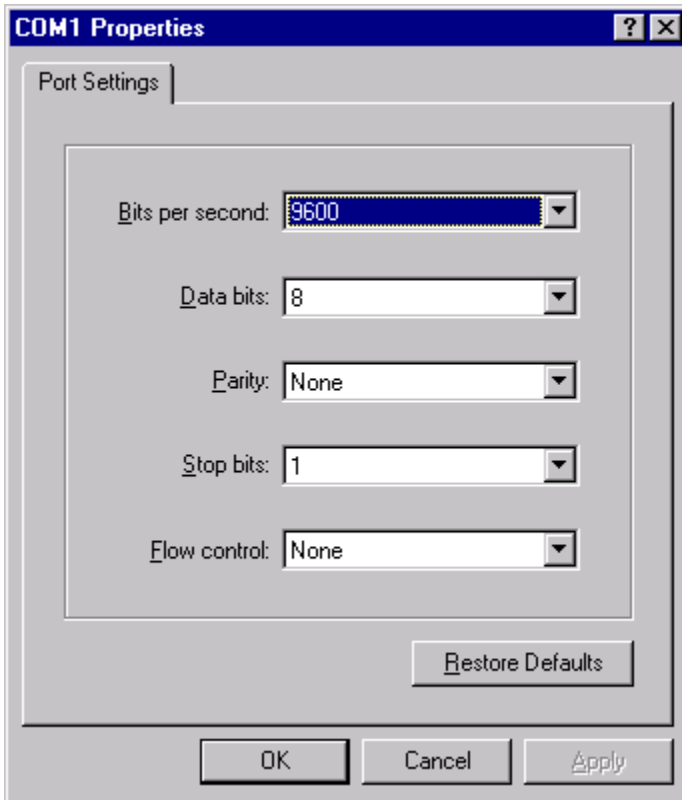

Figure 2-3. HyperTerminal Port Settings.
5. Set the port settings as shown in the example in Figure 2-3. Now click **OK**.